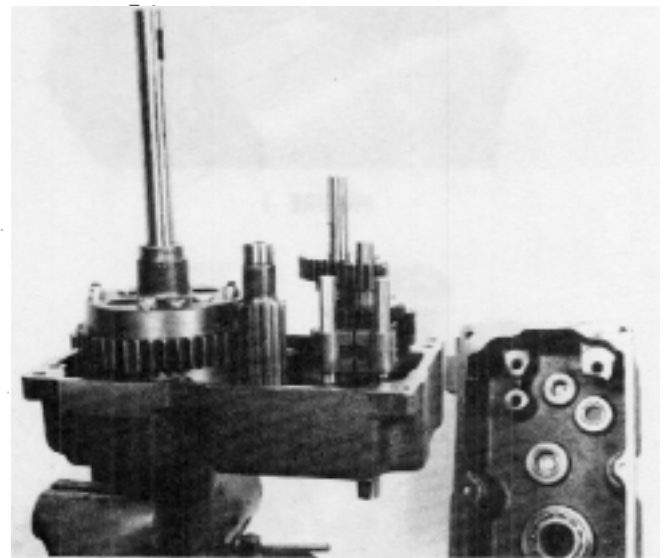

FIGURE 19
- Install the differential and axle assembly, as shown in Figure 19, making sure that four (4) nuts are up toward the L.H. case.